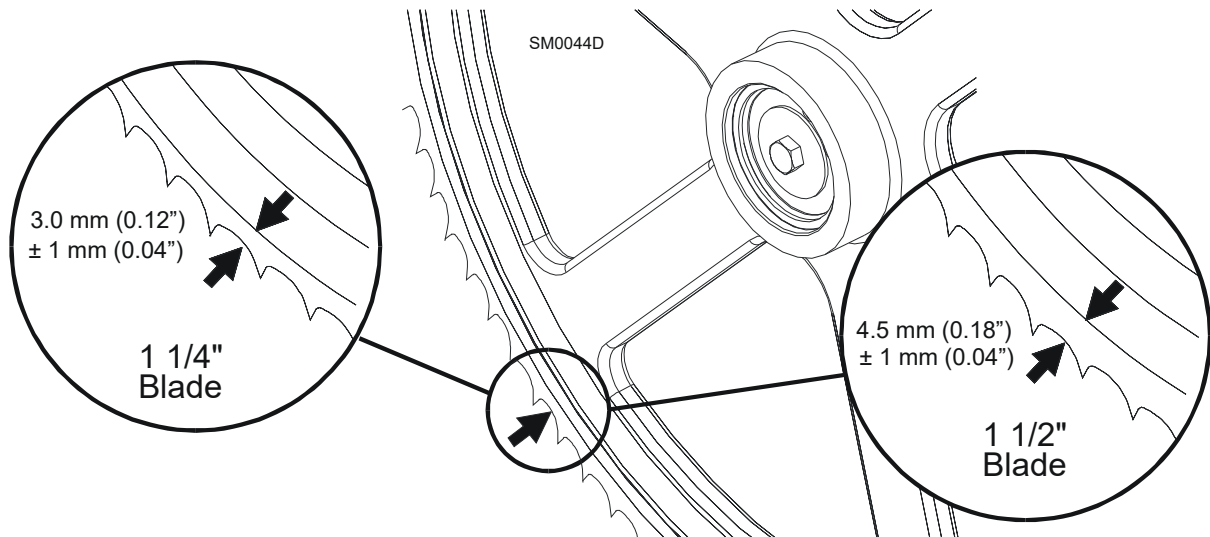

FIG. 5-2
**See Figure 5-2.** The blade wheels should be adjusted so that the gullet of 1 1/4" blades ride 1/8" (3 mm) out from the front edge of the wheels ( $\pm 1/16$  [1.5 mm]). The gullet of 1 1/2" blades should ride 3/16" (4.5 mm) from the front edge of the wheels